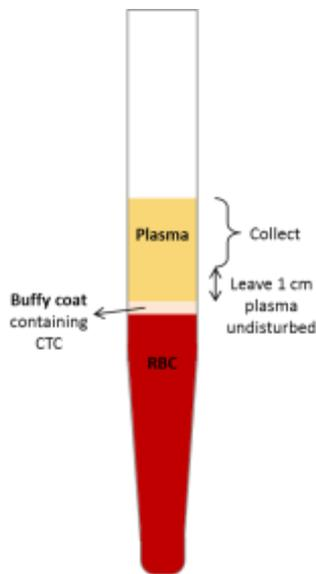

Figure 1 Plasma collection from conical tubes after centrifuging the whole blood sample.
4. Carefully collect 1-2 ml plasma without disturbing the buffy coat in a sterile 2 mL eppendorf tube. Collect the plasma up to 1 cm above the layer of red blood cells; you will leave behind approximately 1 mL plasma above the buffy coat (see Figure 1).